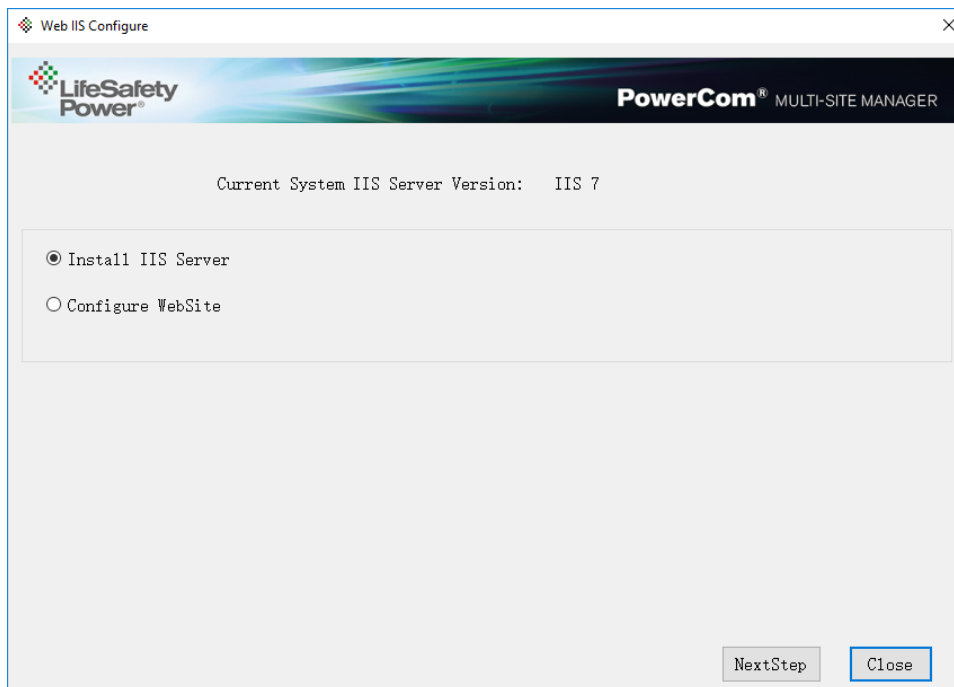

Figure 14
1. Go to Tools > Web IIS Configure. (Figure 14) If the IIS installation failed during the installation of MSM Enterprise, select "Install IIS Server" then click "Next Step" to restart the installation. See Appendix C.